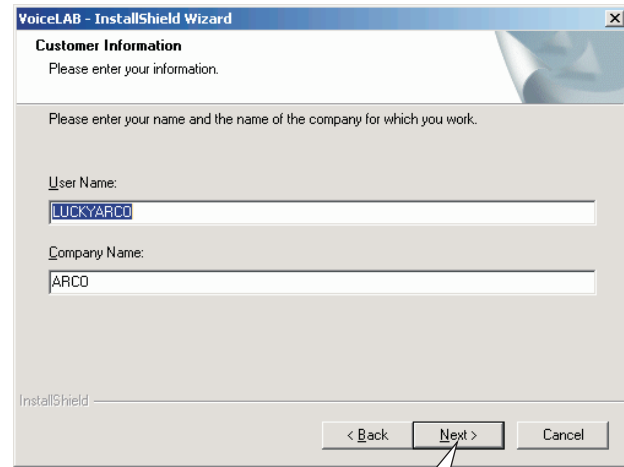

Figure19
- Enter the user name and company name, click NEXT to enter Next step, as shown in figure 19: